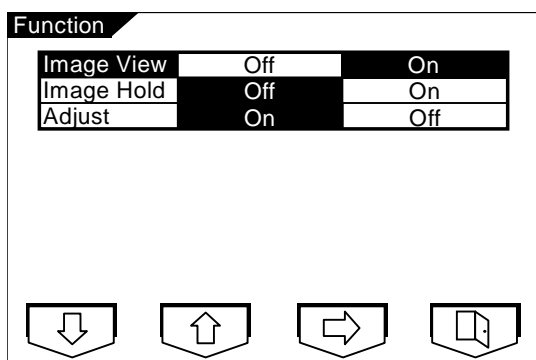

Figure 2
- 3) Use and turn 'Image View' On(Figure 2)